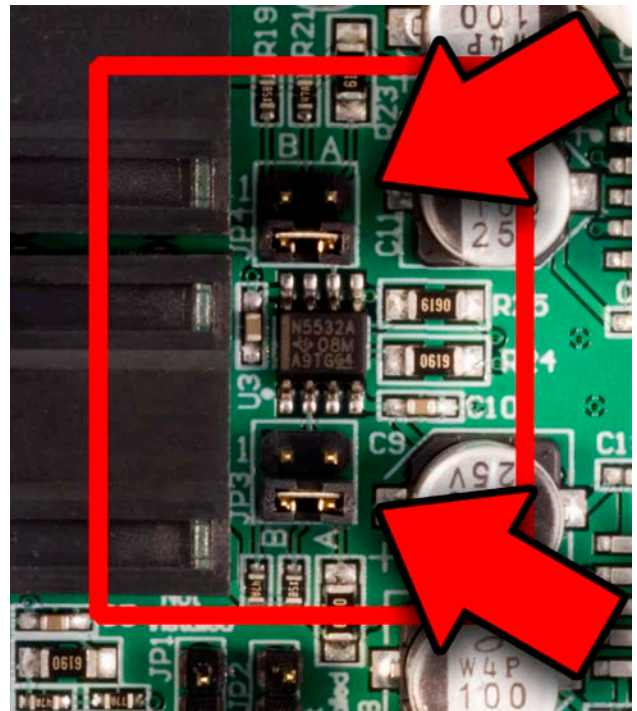

Figure 5 - 10 dB Headphone Attenuation
- **10 dB** attenuation - see **Figure 5** (Factory Default)